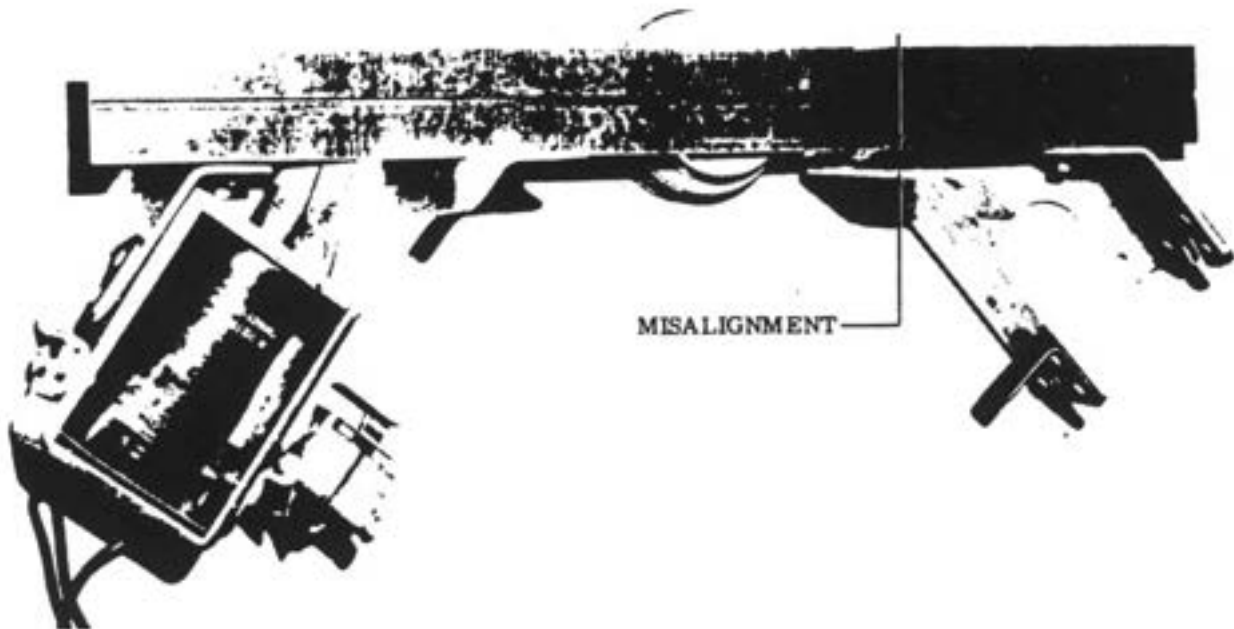

Figure 5-17. Checking Alignment of Solenoid Bracket Flanges
s. Check downlock assemblies (8) for drag-free operation. If drag is evident, check alignment of components as shown in figures 5-17, 5-18 and 5-19. Plunger should work freely.
t. Adjust main gear actuating cylinder rod to bottom the piston out when the landing gear is fully retracted and the rubber bumpers (5) are half-way deflected.
v. Check wheel and tire clearance in wheel wells (6).